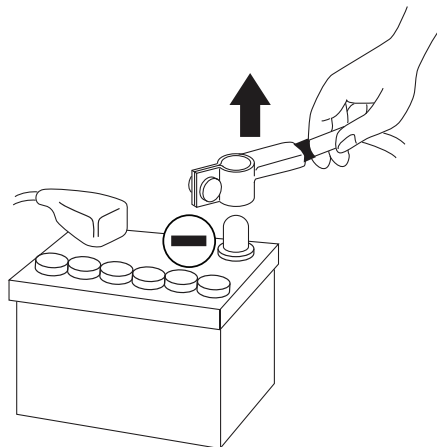

fig. 1
- **Before beginning installation, disconnect the negative terminal of the battery to avoid any risk of injury, fire or material damage. (fig. 1)**
- 2 - Disconnect the negative terminal of the battery before beginning the installation. *(fig. 1)*
Before beginning the connection phase, remove the negative (-) terminal of the battery of the vehicle. *(fig.1)*